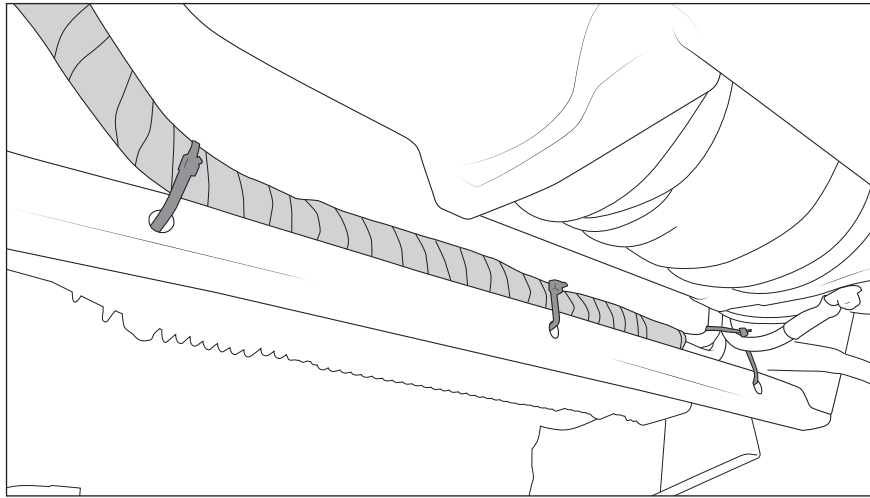

Figure 19
12. Secure wire loom with zip ties (fig 19).